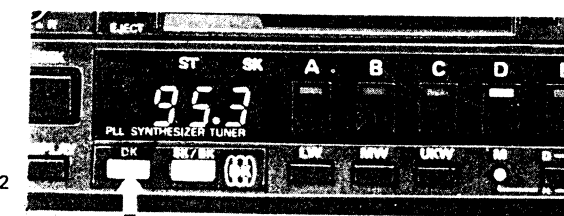

Fig. 12
Push the "DK" BUTTON ⑯. (Fig. 12)